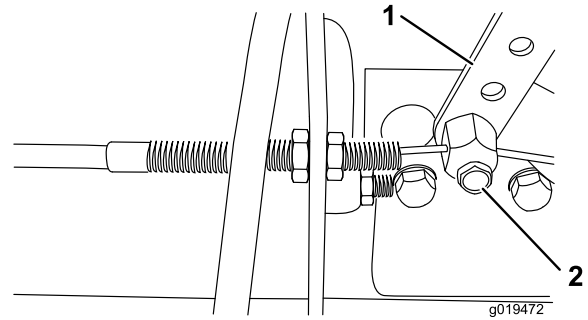

Figure 56
2. Loosen the throttle cable connector on the lever arm at the injection pump (Figure 56).